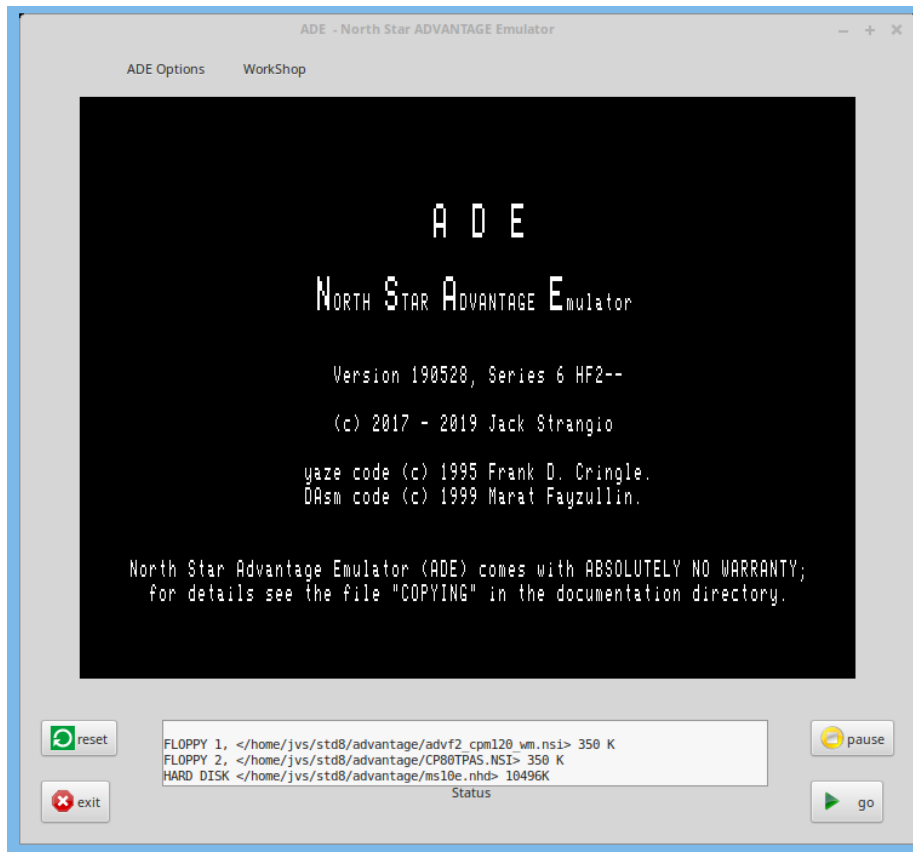

Fig. 1. Initial ADE Splash Screen. Z80 Emulator not yet running. White screen output.
- Fig. 1, Page 9: Initial ADE Title Screen.**